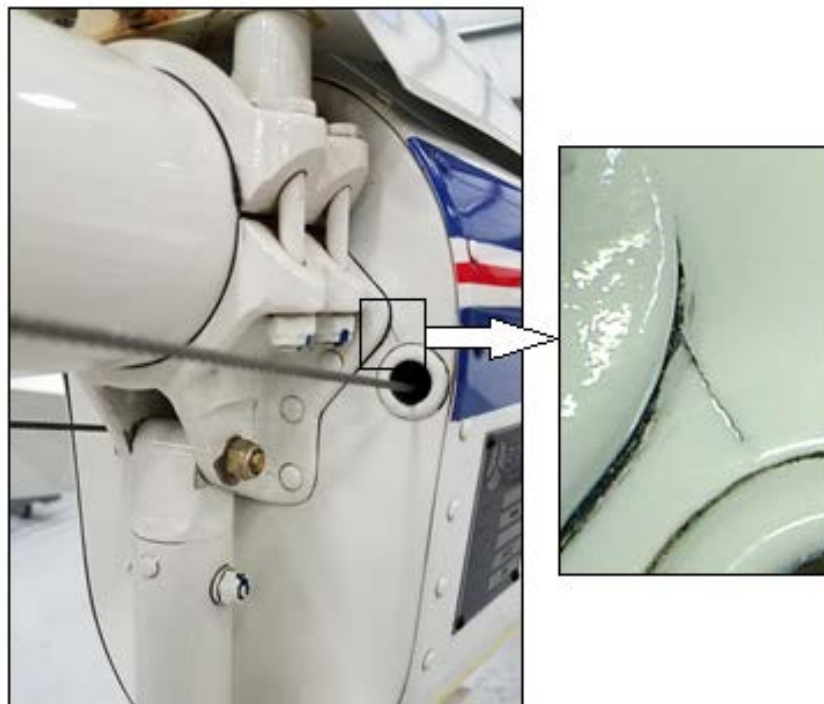
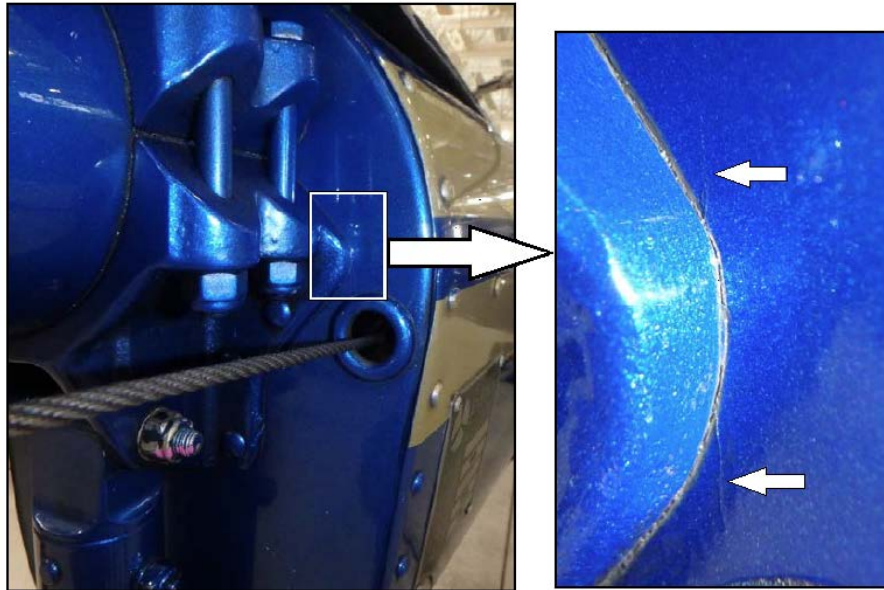

Figure 2. Crack in Aft Tailcone Bulkhead (Example 1)
Figure 3. Crack in Aft Tailcone Bulkhead (Example 2)
- 5.1.2 Examples of a cracked bulkhead are shown in Figure 2 and Figure 3. In both examples, there is a crack on the right side near the lobe of the lower clamp assembly.